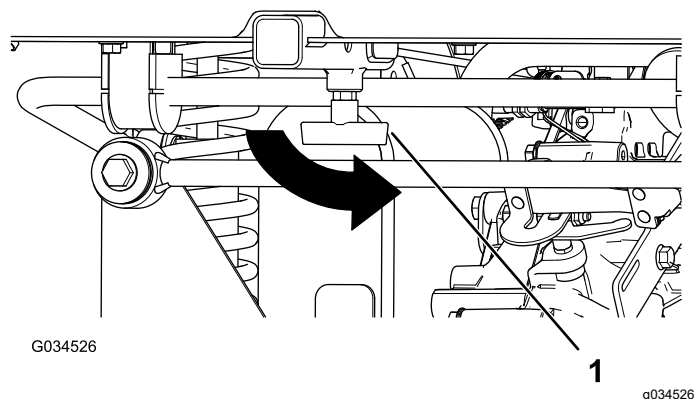

Figure 17
4. Tighten the “T” handle by rotating it counterclockwise (Figure 17).